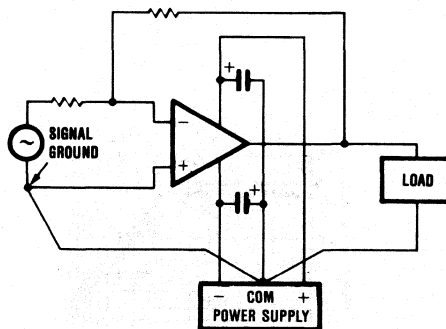

FIGURE 4. Proper Power Supply Connections.
**8.1 Grounding.** Because of the high output current capability of the OPA8785 Series, the user is cautioned to observe proper grounding techniques. Figure 4 illustrates a recommended technique.